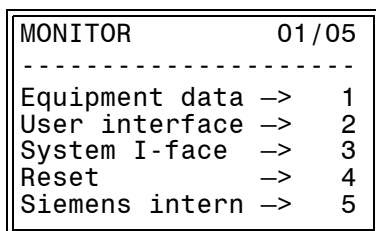

Figure 8-2 Monitor mode shown in the device display
- If the display shows the “Monitor“ mode (Figure 8-2, page 329), you can re-initialize the device with DIGSI: